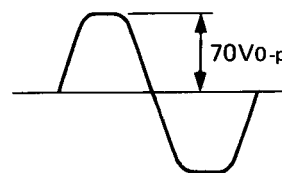

Fig. 19
- a. With no dummy load, apply a 20 kHz sinewave. A normal sinewave should be obtained and a clear clipped waveform of about 70 Vo-p output should be obtained with no oscillation at clipped portion as shown in Fig. 19.